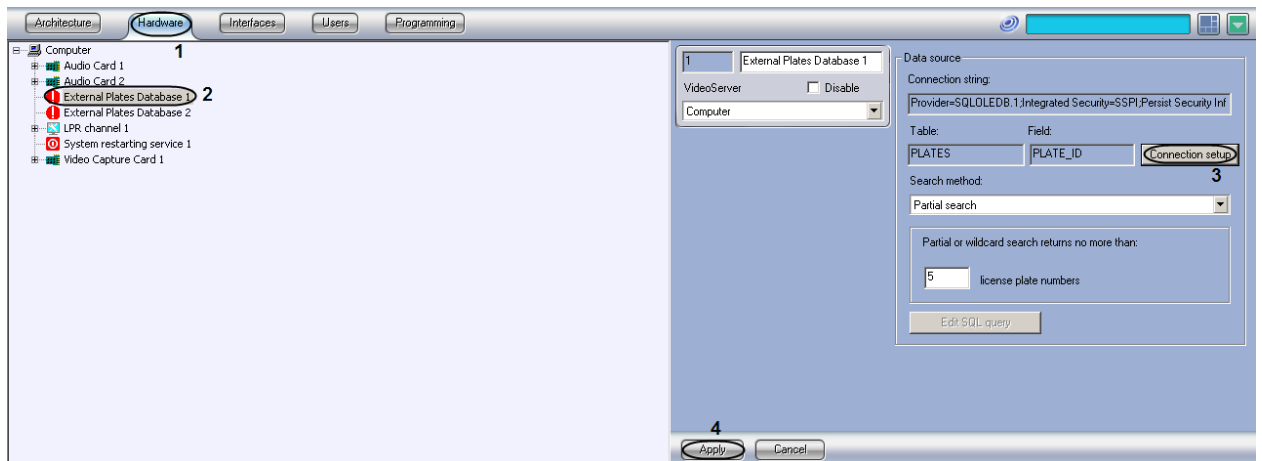

Fig. 7.5-8 Assigning names to table's columns, containing vehicle plates
2. Select the External Plates Database in the objects tree (Fig. 7.5-8, 2).
3. Press the Connection settings button (Fig. 7.5-8, 3).
10. Click Apply (Fig. 7.5-8, 4).